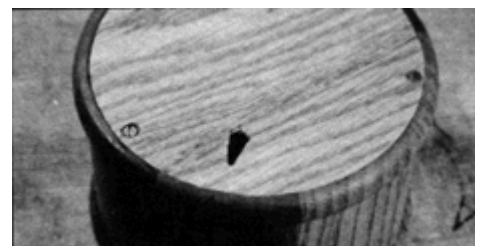

Figure 19
63. Cut a piece of 1/4" plywood to fit snugly in the back (see **Figure 19**).